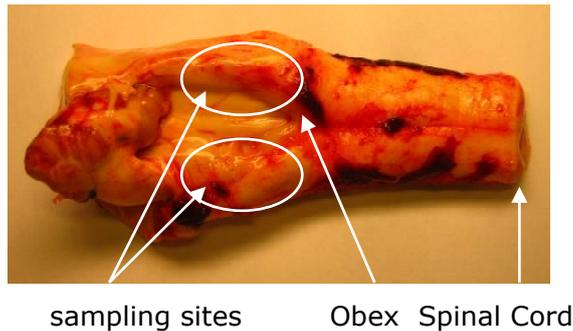

Figure 1: Sampling area
Bovine brain of the obex region (Figure 1) must be used as starting material for the BetaPrion[®] BSE EIA Test Kit.
Sampling and laboratory testing must follow the Regulation (EC) No 999/2001 Chapter C which refers in terms of collection of samples to the latest edition of the "Manual of Standards for Diagnostic Tests and Vaccines of the International Office of Epizootic Diseases (OIE)) stating: "The preferred sample for immunoassay should be at, or as close to the obex as possible, but no further than 1.5 cm anterior to the obex." Figure 1 shows the sampling area, either the left or the right hand side can be used.